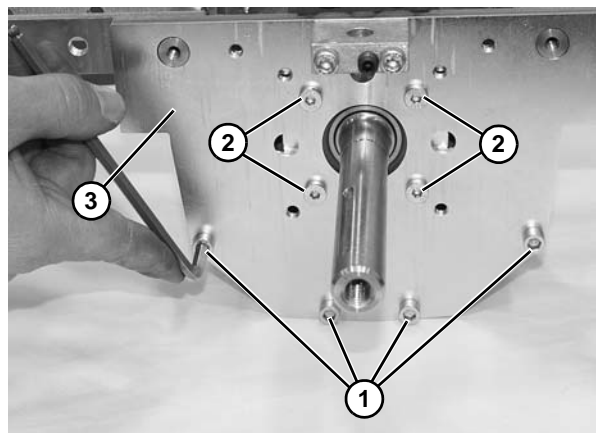

Figure 146
10. Remove four socket head screws (**Figure 146, item 1**).
11. Remove four low head cap screws (**Figure 146, item 2**) and remove side plate (**Figure 146, item 3**).